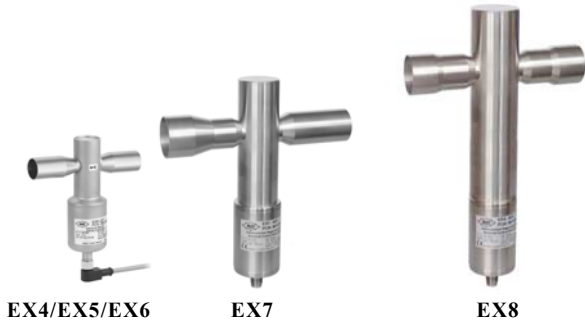

Fig. 1
- The valve must be installed in horizontal position to vertical position (Fig. 1)
- Electrical connection must be downward (as per Fig 1).